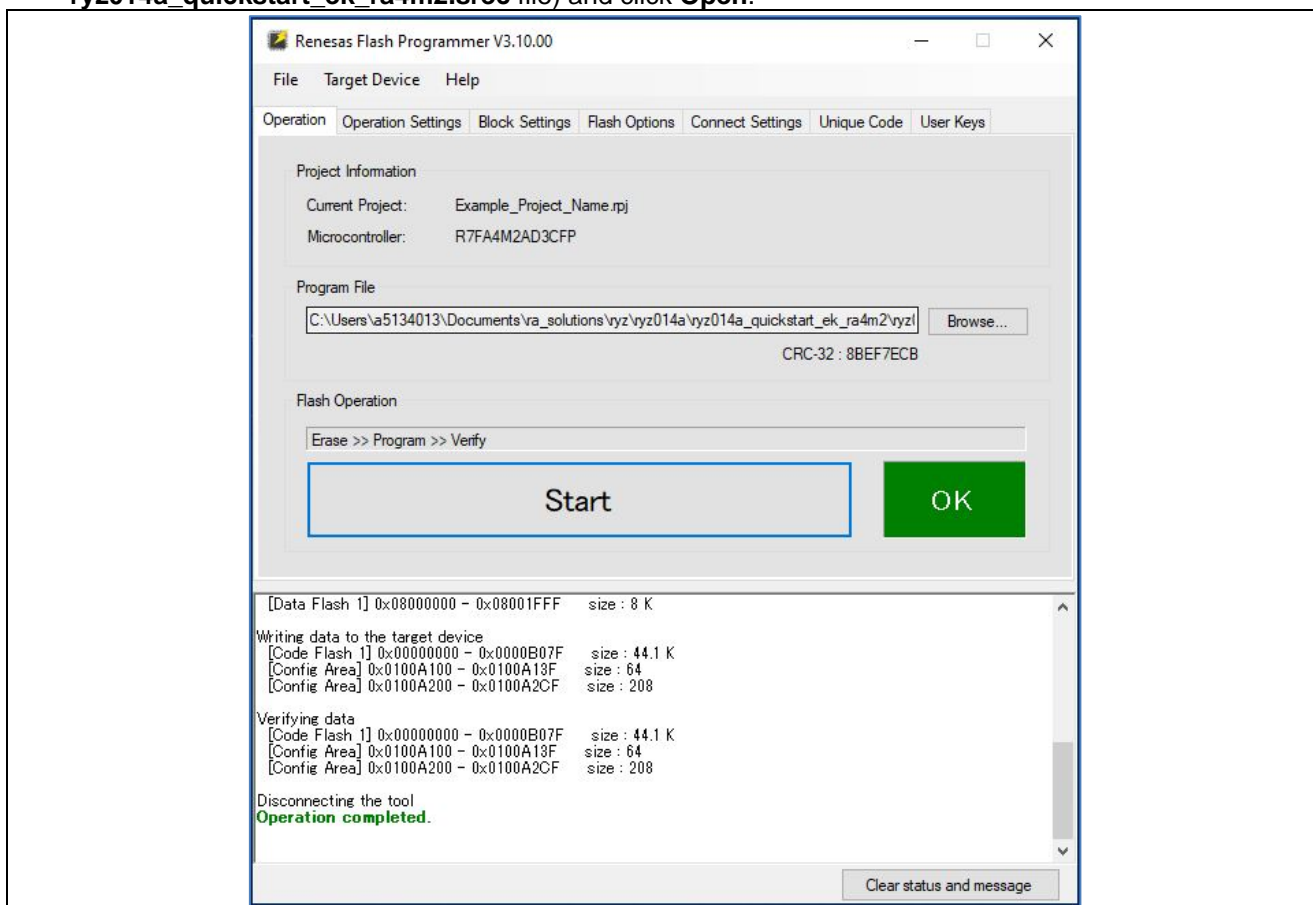

Figure 3. Main Window of Renesas Flash Programmer After Creating a New Project
5. Verify that the message **Operation completed** is printed in the main window after clicking **Connect**. Under Program file, click **Browse** to choose the program file that will be flashed onto the board (Figure 3). Using the file explorer window, navigate to the example project’s **Hex File** (located in **r20qs0047euxxx-ryz014a-ek-ra4m2.zip > ryz014a_quickstart_ek_ra4m2/ryz014a_quickstart_ek_ra4m2.sec** file) and click **Open**.